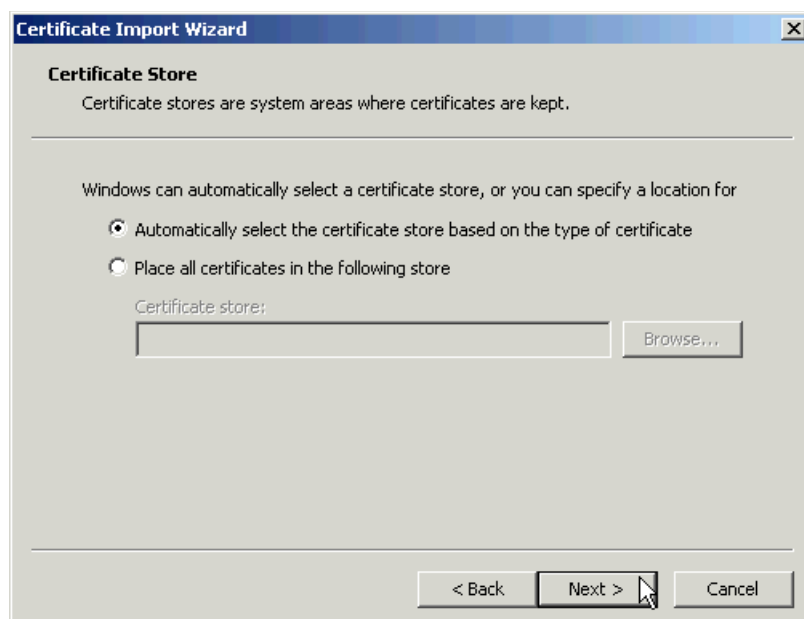

Figure 6-17 Certificate Store panel
4. On the Certificate Store panel (Figure 6-17), click **Next**.